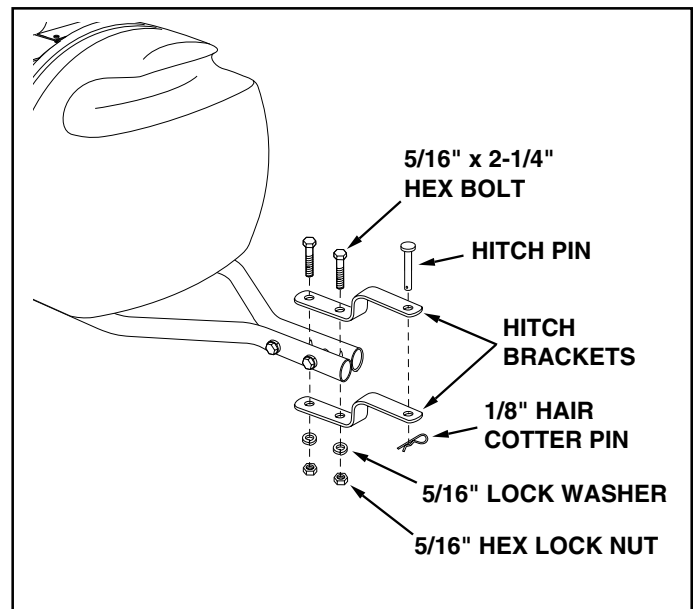

FIGURE 4
5. Assemble the two hitch brackets to the front of the hitch tubes using two 5/16" x 2-1/4" hex bolts, 5/16" lock washers and 5/16" hex lock nuts. **Do not tighten yet.** See figure 4.
6. Assemble the hitch pin to the hitch brackets and secure it with the 1/8" hair cotter pin. See figure 4.
**Tighten** the two bolts which fasten the hitch brackets to the hitch tubes. See figure 4.